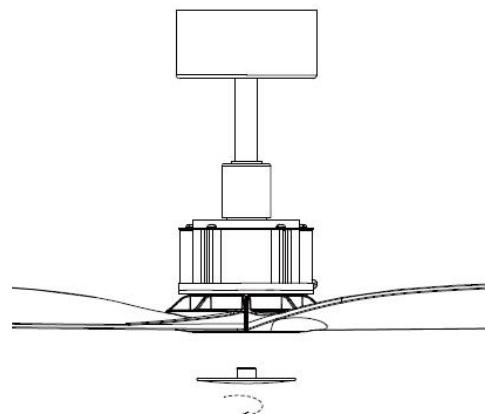

Fig. 8
- Finally, install the bottom cover to the motor shaft by rotating it clockwise. Fig.8